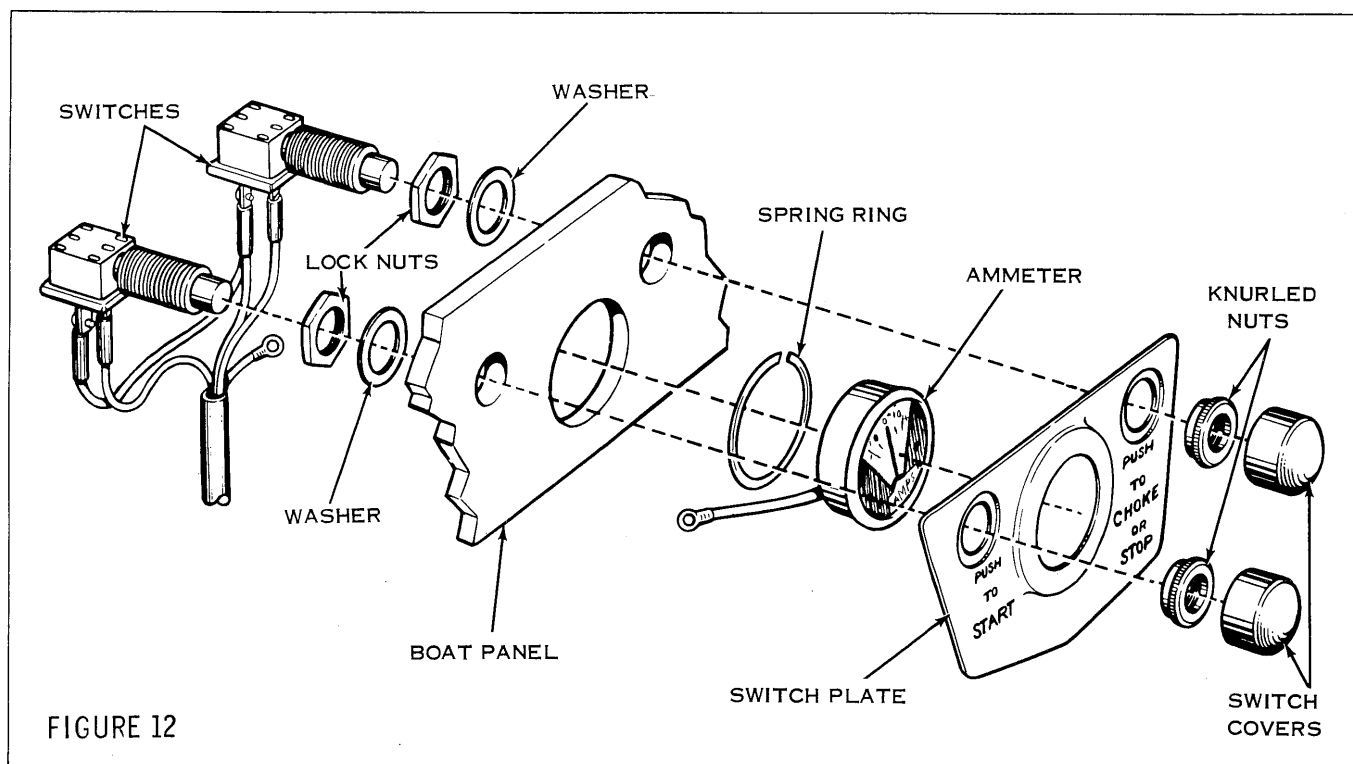

FIGURE 12
1. Remove switches and switch plate from boat dashboard. For removal, loosen switch lock nuts at rear of dashboard. Then take rubber switch button covers off and remove knurled nuts from front of switches. Switches and switch plate can then be removed. **IT IS NOT NECESSARY TO REMOVE WIRES FROM SWITCHES.** See Figure 12.
5. Insert the back side of the ammeter, with terminals and wire, through the hole in the dashboard from the front side. Spring ring will be between the front ammeter flange and the dashboard. See Figure 12.
6. Place the switch plate over the ammeter, so that the ammeter face protrudes through the large center hole. Insert switches through the holes in the dashboard and switch plate. Be sure washers are between lock nuts and boat panel. Fasten switches at the front of the switch plate with the knurled nuts. Tighten lock nuts on switches at the rear of dashboard to secure the assembly. Place the rubber covers over the switches. See Figure 12.